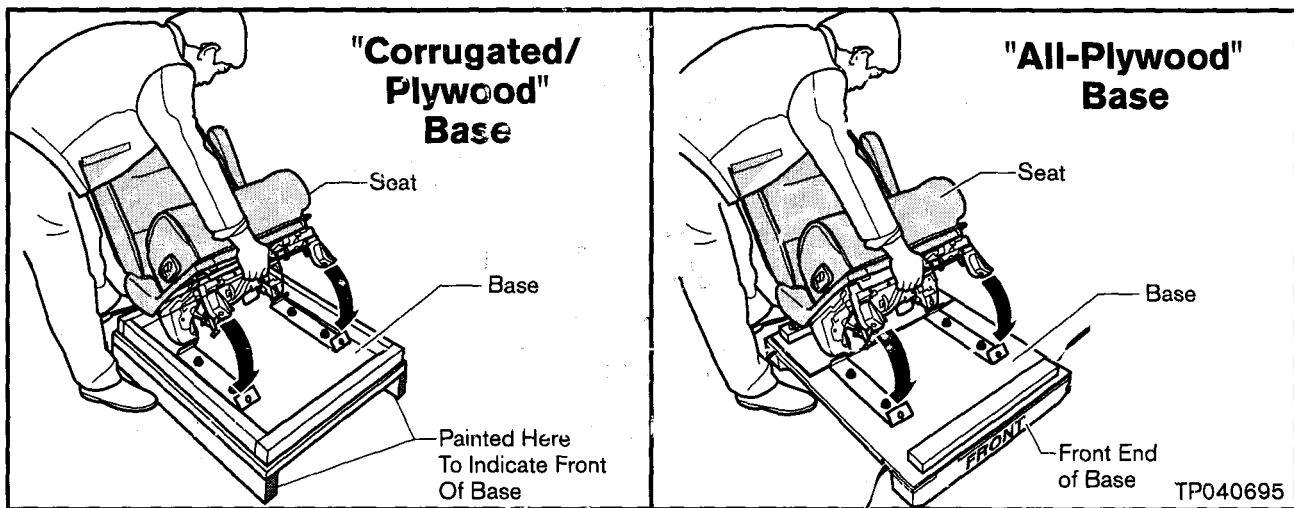

Figure 9
- When setting the seat onto the Base, make sure you place the rear end of the seat frame onto the Base first, then lower the front end of the seat down into position (see Figure 9).